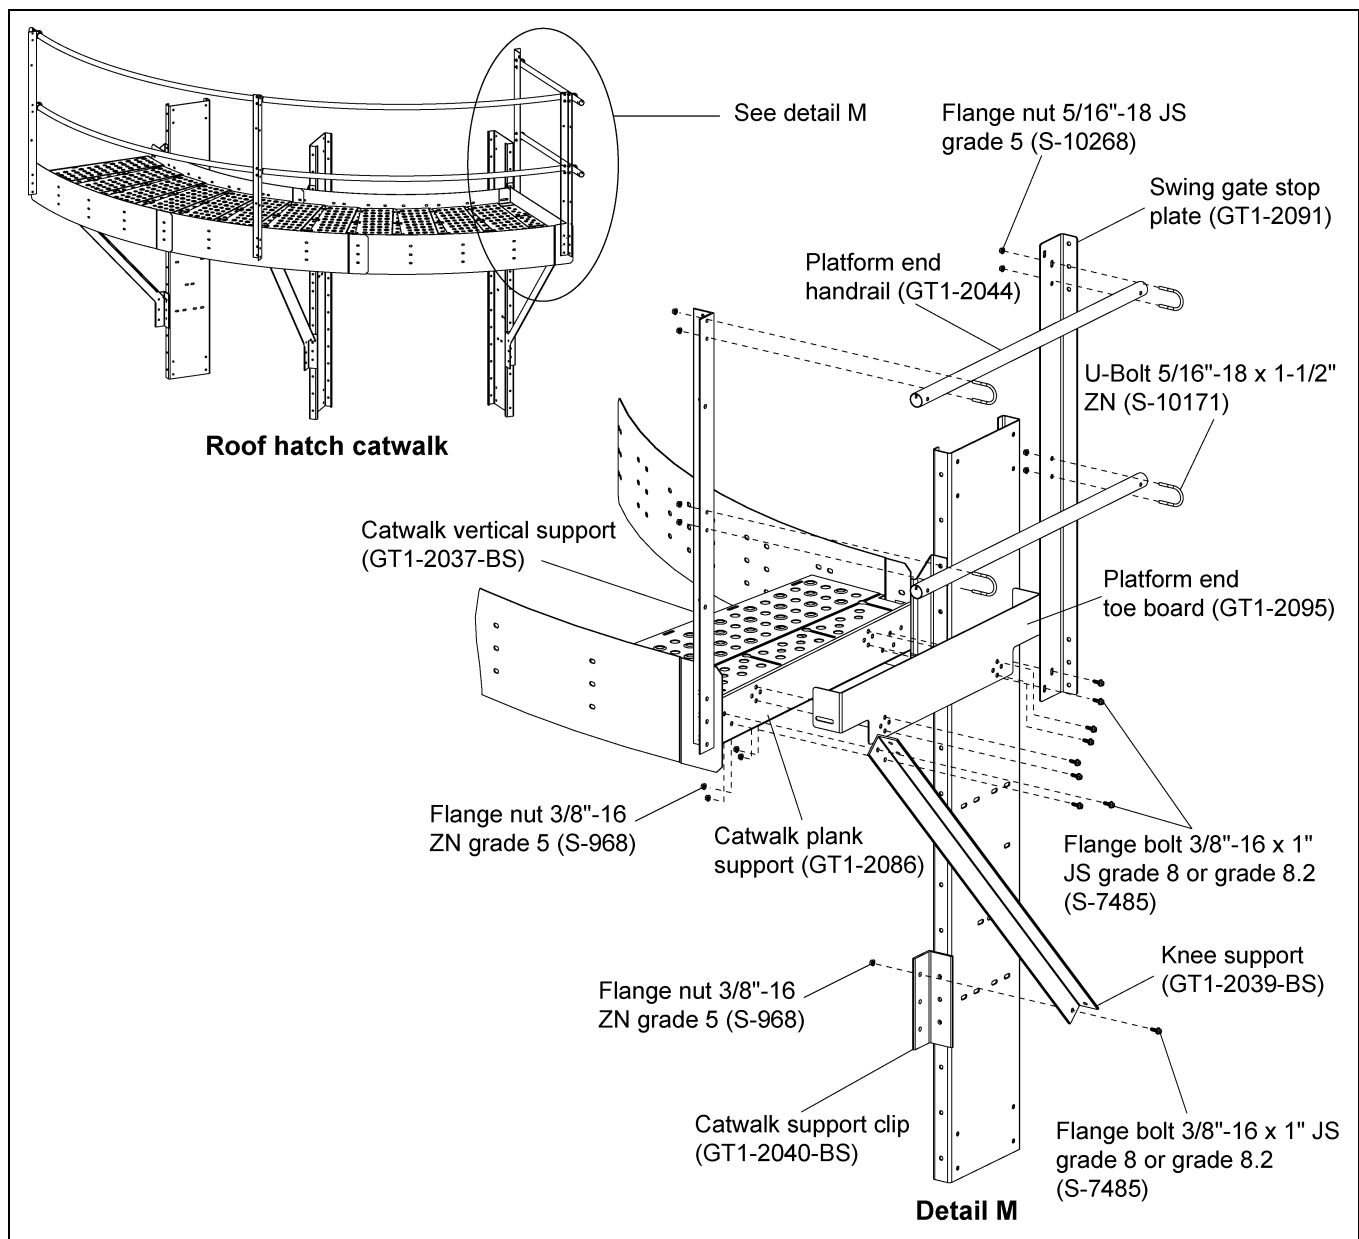

Figure 6W Roof Hatch Platform End Handrail (GT1-2044) Installation
4. Install the platform end toe board (GT1-2095) and knee support (GT1-2039-BS) to the catwalk plank support (GT1-2086) using 3/8"-16 x 1" JS grade 8 or grade 8.2 bolts (S-7485) and 3/8"-16 ZN grade 5 nuts (S-968). *(See Figure 6W.)*
7. Attach the bottom end of the knee support (GT1-2039-BS) to the catwalk support clip (GT1-2040-BS) using 3/8"-16 x 1" JS grade 8 or grade 8.2 bolts (S-7485) and 3/8"-16 ZN grade 5 nuts (S-968). *(See Figure 6W.)*